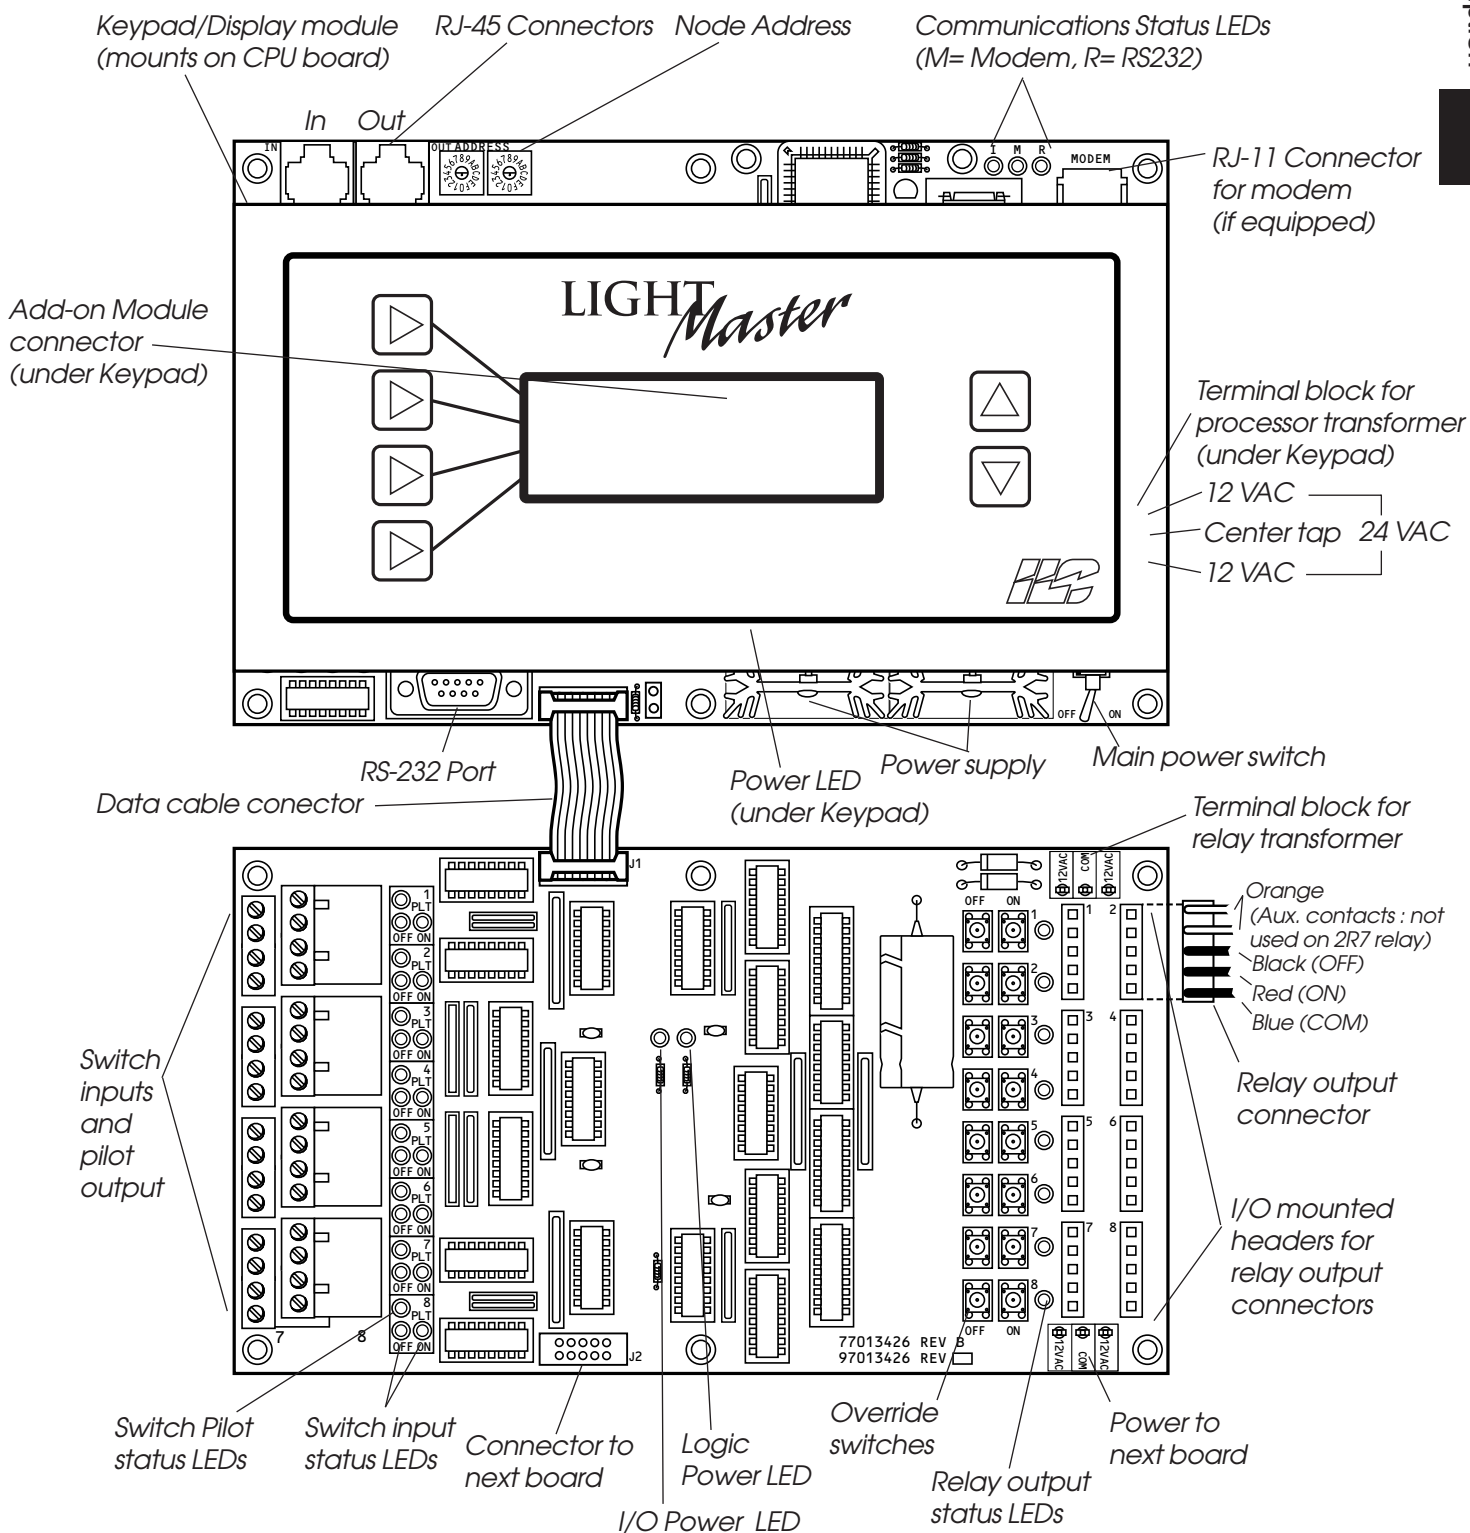

Figure 1.5 – LightMaster CPU Board and I/O
1.1.5 CPU Board – (See Figure 1.5.) The CPU board provides the controller's intelligence, memory, and communications capabilities. Major components include:
– Devices that operate on ILC's LightSync CAT-5 data line include LightMaster panels, LightSync switches, photocells, and interfaces like the LightSync D-6 and SIB-4. A standard 24 gauge CAT-5 cable is used for the data line and provides both data and power to these devices. See Figure 1.7 which details cable specifications. The cable terminates to ports on each Lightmaster controller and LightSync device as shown in Figure 1.5. The total data line end to end distance may not exceed 3000 feet without the addition of a Power Supply Repeater (PSR) (See Figure 1.8) to the data line. Only a PSR will extend the data line. A PSR has one incoming and two outgoing RJ45 ports to split the line into two different directions. See Figure 1.10 for an example of possible project layout.